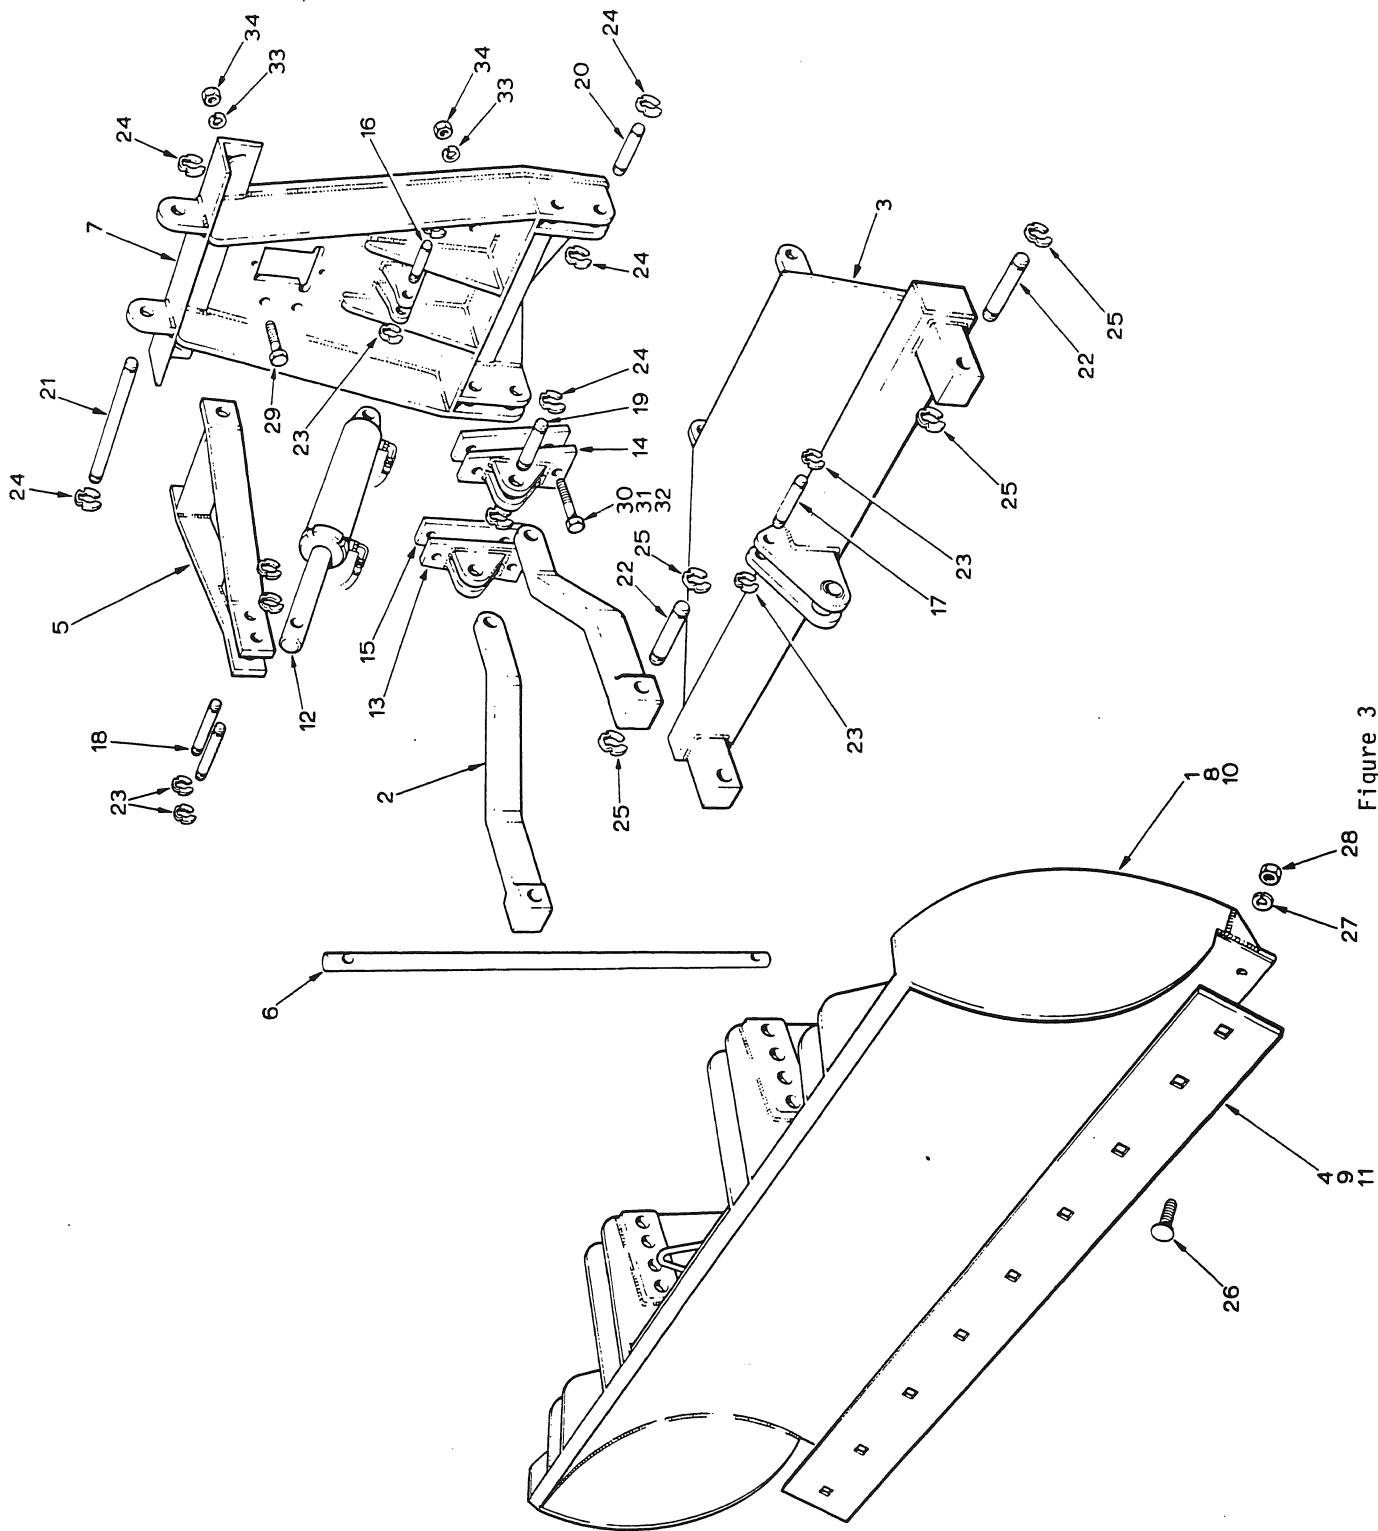
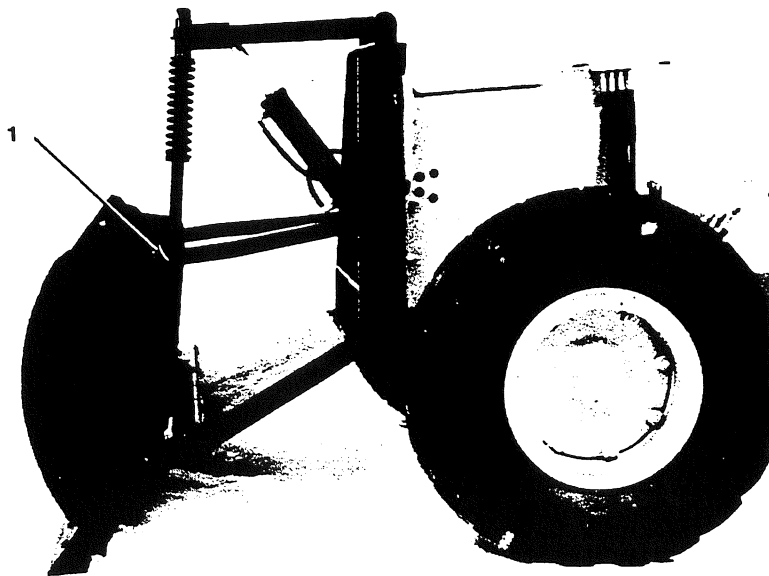

Figure 3
Figure 4
1. Removal and Disassembly (Fig. 3).
11. Assembly and Installation (Fig. 3). Install the yoke (5) onto the A-frame (7), and retain with the pin (21). Secure the pin with two kliprings (24).
12. Attach suitable lifting tackle to the yoke. Hoist the yoke and A-frame into position on the grader nose plate. Install four hexagon head bolts (29), nuts (34) and lockwashers (33).
13. Place the cylinder (11) in position, and retain with the pins (18 and 16) at the yoke and the A-frame. Secure each pin with two kliprings (23). Remove the lifting tackle.
14. Install the left hand yoke (14), right hand yoke (13) and shims (15). Retain each yoke with two hexagon head bolts (30, 31 or 32), nuts (34) and lockwashers (33).
15. Place the push frame (3) into position at the A-frame attachment points. Install the two pins (20), and secure with the kliprings (24).
16. Install the lift link (6) between the push frame and yoke, and retain with the two pins (17 and 18). Secure each pin with two kliprings (23).
17. Attach suitable lifting tackle to the bulldozer blade (1, 8 or 10) and place into position at the push frame attachment points. Install the three pins (22), and secure with the kliprings (25).
18. Install the two upper push arms (2) at the right and left hand yokes. Install the two pins (19), and secure with the kliprings (24).
19. Connect the upper push arms with the bulldozer blade brackets. Install the two pins (22), and secure with the kliprings (25). Remove the lifting tackle.
### KEY TO FIG. 3
| <p>20. Re-connect the hydraulic hoses to the frame and cylinder, ensuring that each hose is connected to its corresponding fitting.</p> <p>21. Adjustments (Figs. 3 and 4). The blade pitch can be varied by removing the upper push arm pins, tilting the blade to the desired angle; then installing the pins in the nearest alternative holes (1, Fig. 4).</p> | <p>22. Worn edges (4, 9 or 11, Fig. 3) can be replaced by removing the required quantity of carriage bolts (26, Fig. 3), nuts (28, Fig. 3), and lockwashers (27, Fig. 3); then removing the edge.</p> <p>23. Install a new edge, and retain with the carriage bolts, nuts and lockwashers.</p> |